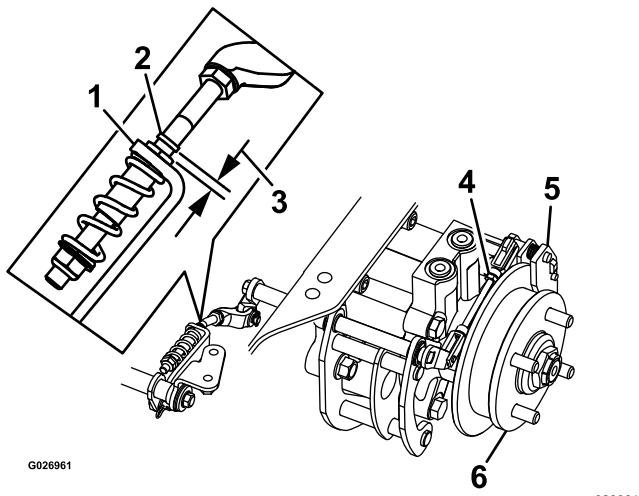

Figure 73
8. Check to see if there is a visible gap between the L-bracket and the linkage stop (Figure 73).